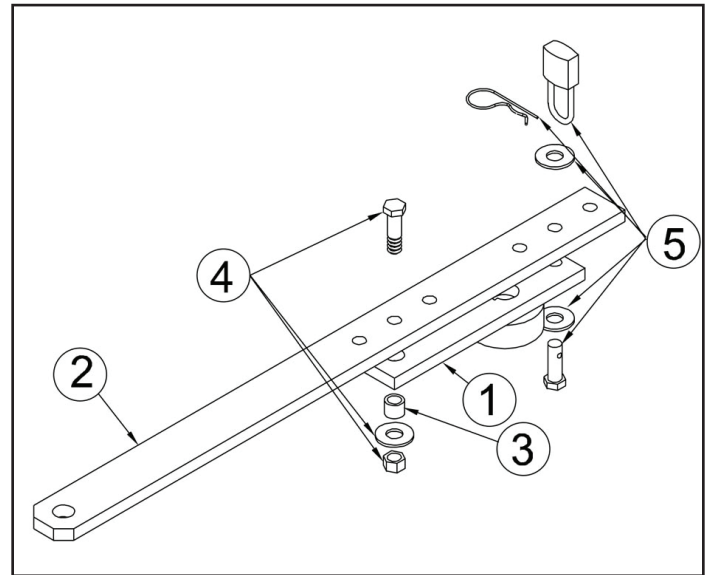

Figure 4. Crank Extension Installation
See Figure 4. Place the crank extension (2) on the operator crank (1) as shown. Slide a black spacer (3) into the crank and hold it while sliding a 1/2-13 x 1-3/4" hex head bolt (4) through the extension and crank. Assemble with a 1/2" flat washer and locknut and tighten. Slide the clevis pin (5) and a 1/2" flat washer through the crank and the extension. Slide another 1/2" flat washer over the end of the pin and lock it with either a disconnect pull pin or with an optional pad lock through the pin.